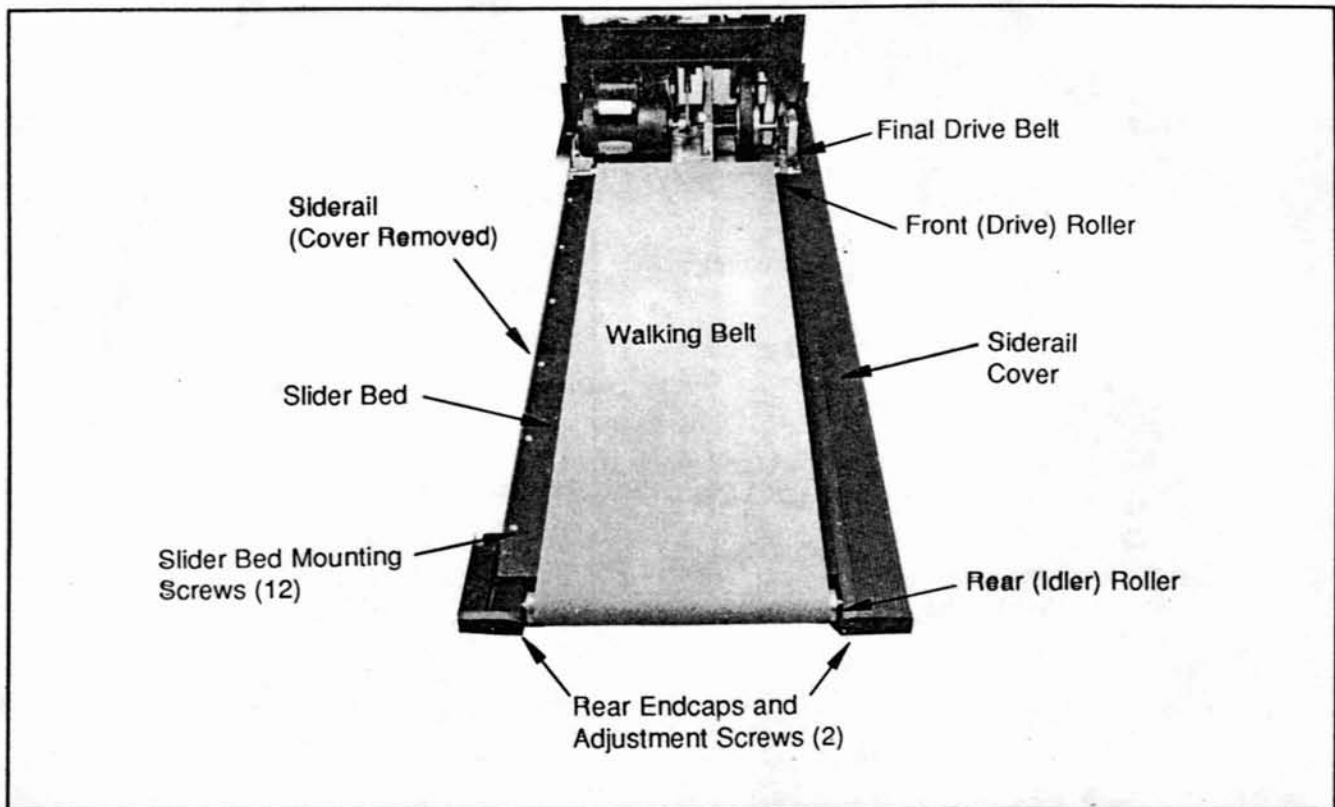

Figure 3-27. Walking Deck Assembly
Figure 3-27 is an overview of the walking deck assembly.
Figure 3-27 on the previous page shows the walking deck assembly.
4. Remove 12 Phillips screws that secure the treadmill slider bed to the siderails (Figure 3-27).